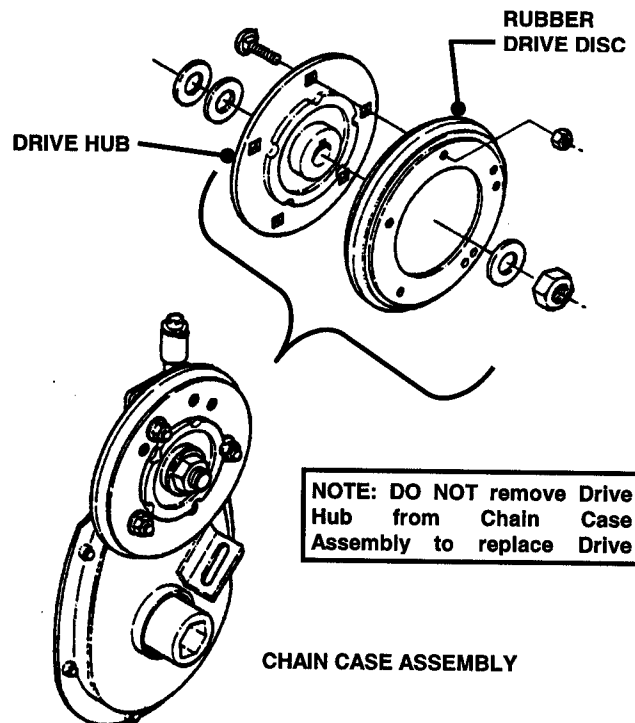

FIGURE 4.14
2. Remove the three nuts that secure rubber drive tire to the chain case. Remove drive tire. See Figure 4.14.
3. Install new rubber drive tire. Reinstall the three nuts. Torque to 15 to 25 ft. lbs. See Figure 4.14.